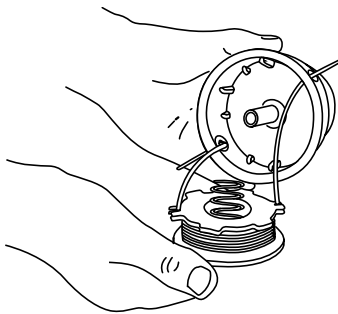

Fig. 20
9. Insert the ends of the line through the eyelets in the outer spool and place inner reel inside the outer spool (Fig. 20).
5. Insert the ends of the line through the eyelets in the outer spool (Fig. 20, Pg. 16).